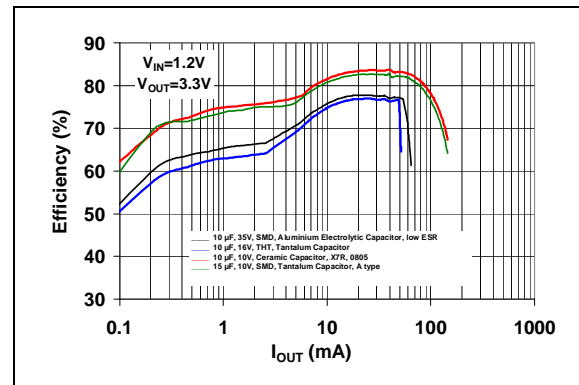

FIGURE 12: Efficiency @ $V_{OUT} = 3.3\text{V}$ vs. Output Current for Different Output Capacitors Types.
The output capacitor does not affect only the output voltage ripple. Efficiency is also affected by the capacitor's equivalent series resistance. The resistive loss depends on the selected capacitor type (ceramic, aluminum or tantalum dielectric). The best choice is the ceramic capacitor, which has the lower DC equivalent resistance, ESR (less than 10 m Ω). Aluminum types have a few ohms of resistance. Figure 12 illustrates how the efficiency and the maximum output current are affected by different output capacitor types, when $V_{OUT} = 3.3\text{V}$ and $V_{IN} = 1.2\text{V}$.
Using high ESR capacitor types result in poor efficiency. When running with a 10 μF ceramic output capacitor, the MCP1640 generates a maximum of 150 mA at 3.3V output and 1.2V input. If the ceramic capacitor is replaced with a 10 μF aluminum capacitor, the maximum output current reached by the MCP1640 is approximately 65 mA. Figure 12 also shows a 15 μF low ESR tantalum capacitor that performs with similar efficiency to a 10 μF ceramic capacitor.
- Increase output capacitor up to 100 μF (see Figure 12)